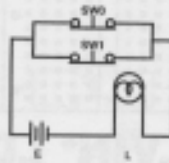

Fig. 15, Electrical Circuit Comparison
**Procedure - Refer to Figures 15, 16, and 17 for the following instructions.**